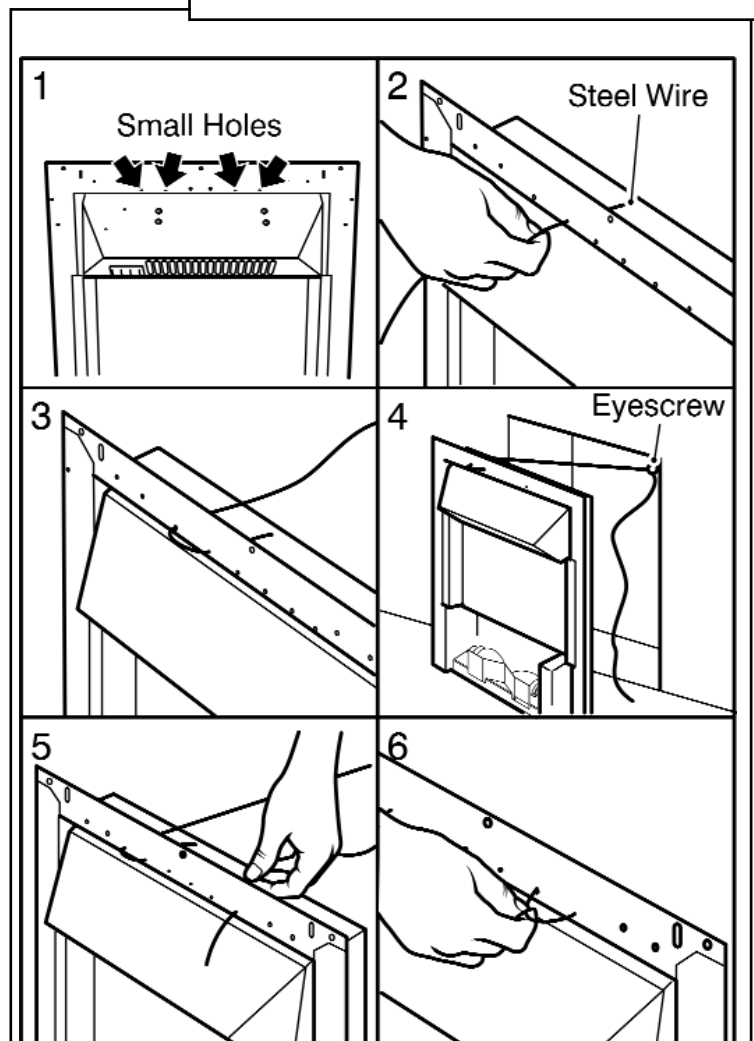

Figure 6. Steel wire fixing (Detail at top of heater may differ from that shown)
7. At the top of the heater there are four small holes, two each side of the heater (See figure 6- Item 1). From the front of the heater, thread about 50mm (2 inches) of the steel wire into the inside small hole on the left side of the heater (See figure 6 - item 2).
hole until there is only a small loop of wire at the front of the heater (See figure 6 - item 3).
9. At the back of the heater there will be a long piece and a short piece of wire coming through the two holes. Hold the short piece and give the long piece a gentle tug. This will secure the steel wire. Take the long piece and thread this through the eyescrew in the back of the fireplace opening (See figure 6 - item 4).
10. From the back of the heater thread the long piece of steel wire through the outer small hole on the right hand side of the heater (See figure 6 - item 5).
11. Locate the heater in the fireplace opening, then from the front of the heater, gently pull the steel wire on the right hand side to gather up the excess until the heater is secure. Thread the wire through the remaining small hole to lock the wire and heater in place (See figure 6 - item 6).